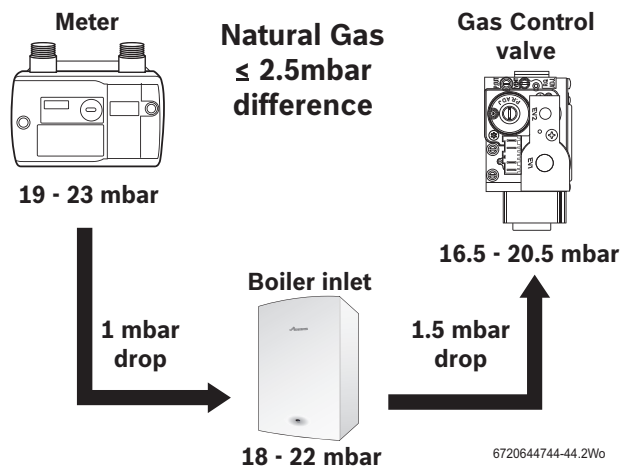
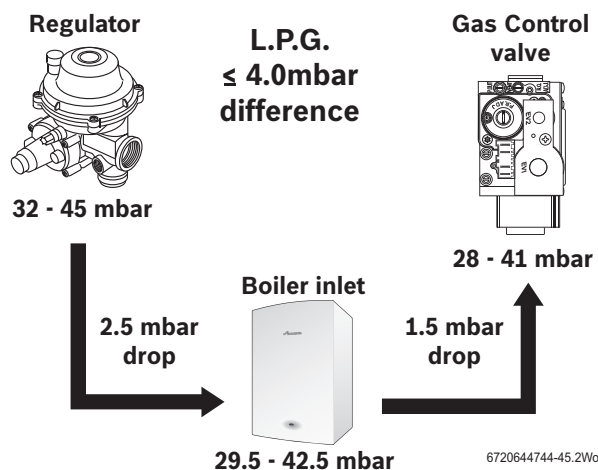

Fig. 49 Natural gas pressures
Fig. 50 L.P.G. pressures
- ▶ Slacken the screw in the inlet pressure test point (1) and connect a manometer.
- ▶ Check the gas supply working pressure at the gas valve conforms to values shown in Fig. 49 or Fig. 50 .